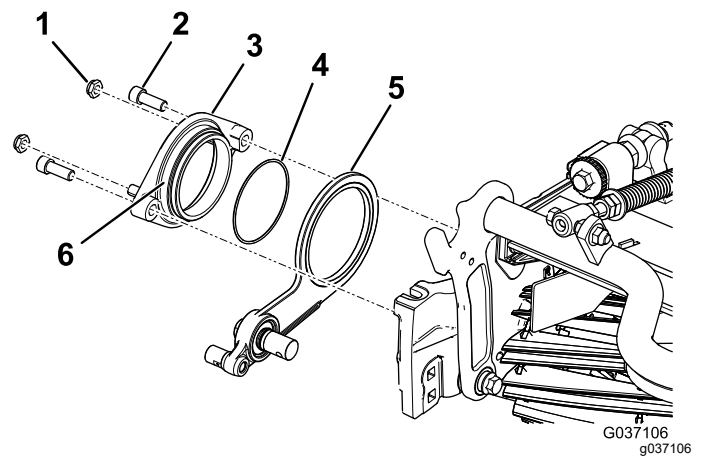

Figure 9
3. Apply anti-seize compound on the outside diameter of the pivot-hub assembly (Figure 9).
4. Apply grease to the threads of 2 hex-socket bolts, then secure the pivot hub over the idler assembly to the side plate (Figure 9).
5. Loosely install the 2 locknuts on the pivot hub (Figure 9).